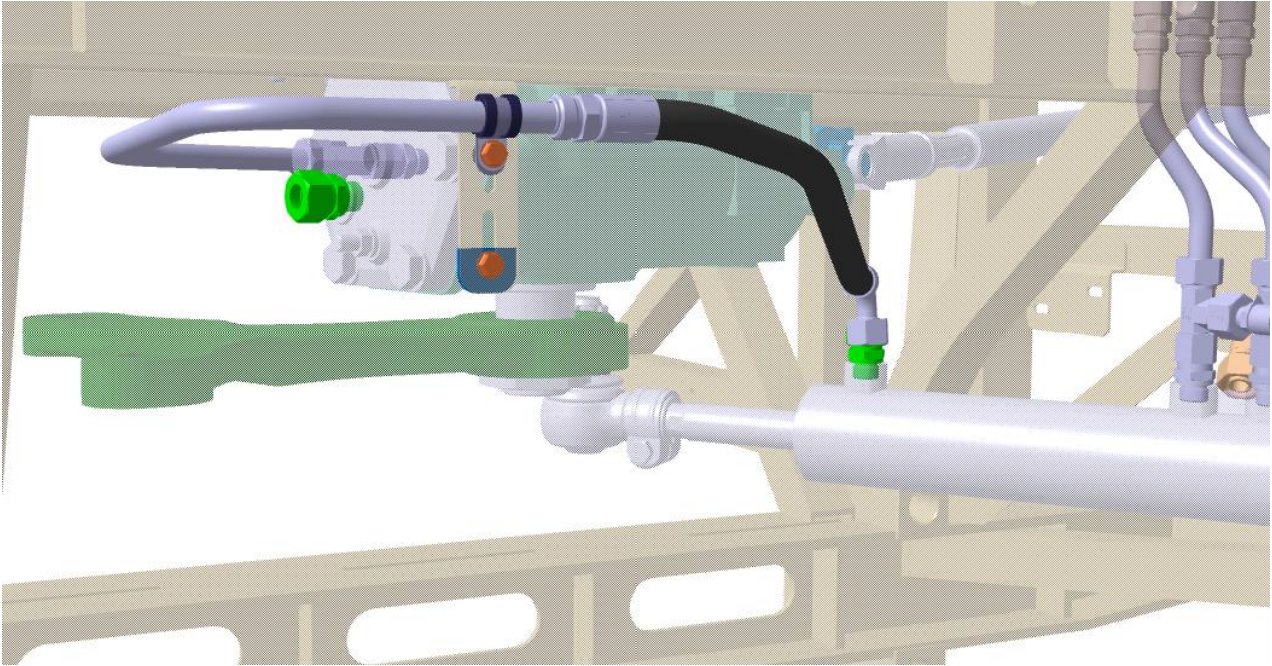

Figure-12
11. Mount hose (9630-35Y and 9641-28\_244Y) as shown in **Figure-12**. Use new 61102-90000-24Y and 61102-90020-11Y on the steering box side. (Look at the Note-1 in Page 11 for the tightening procedure.) Fix the hose and pipe on the chassis with MH020805Y numbered clip (Tightening torque value is **3.69 ft-lb / 5Nm**).